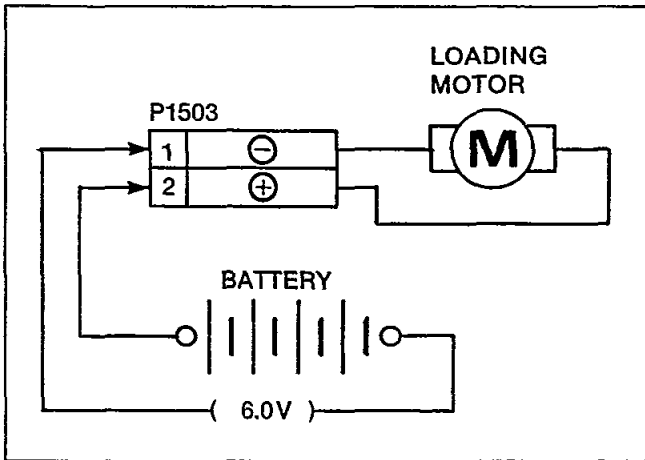

Fig. S8
- 1) Connect the battery to P1503 as shown in Fig.S8.